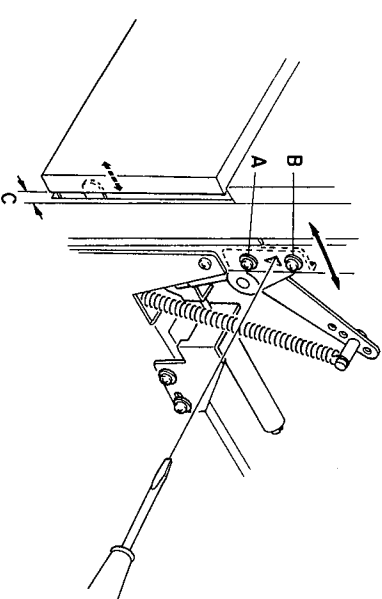

Fig. 4.31
- (1) Remove the Top Cover Ass'y, referring to item 2.1.
- (2) Loosen the screw (A), then slightly loosen the screw (B).
(3) By turning a screwdriver as shown in Fig. 4.31, adjust the gap (C) at the lower part of the Adjustment Lid until it becomes equal to the gap at the upper part of the Adjustment Lid. Clockwise turning will result in decreasing the gap (C) and vice versa.
- (4) Tighten the 2 screws (A and B).